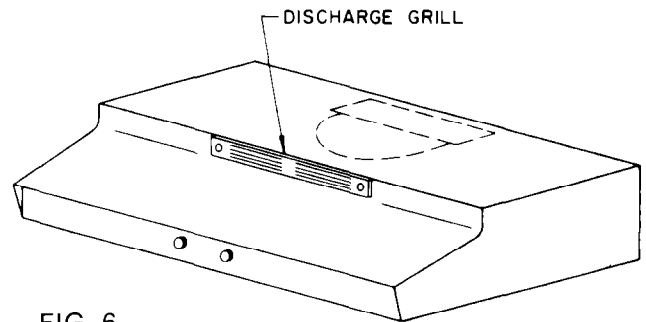

FIG. 6
1. To convert your range hood to ventless, remove the discharge grill shown in Figure 6 by pulling with fingers. Remove the metal back seal from behind the louver.